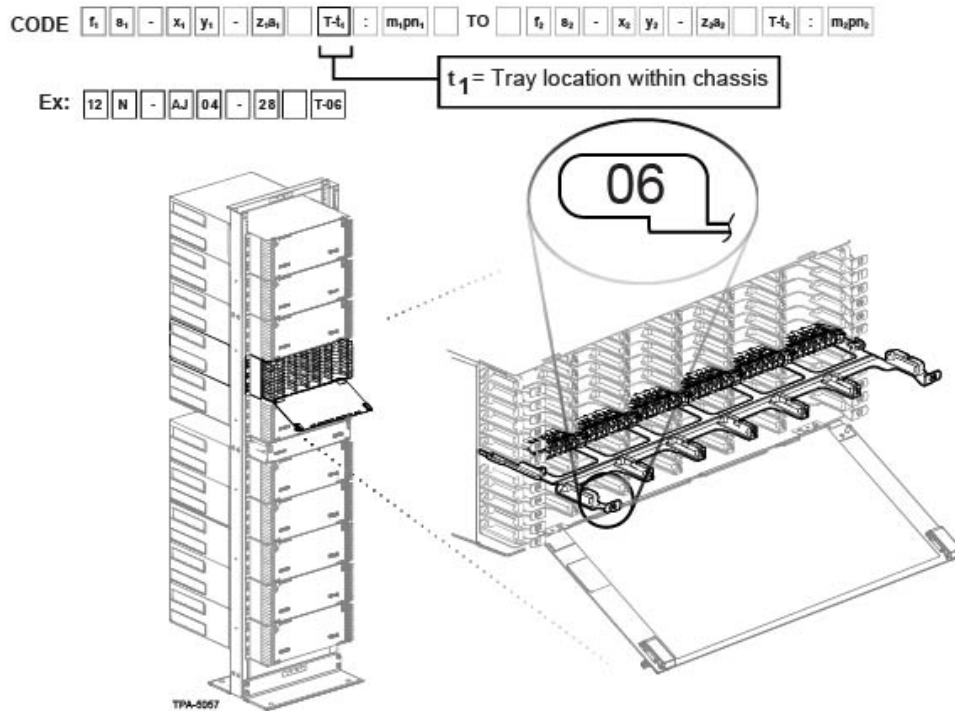

Figure 30 — Tray Label Location
**Step 3: Tray Location (Figure 30)**